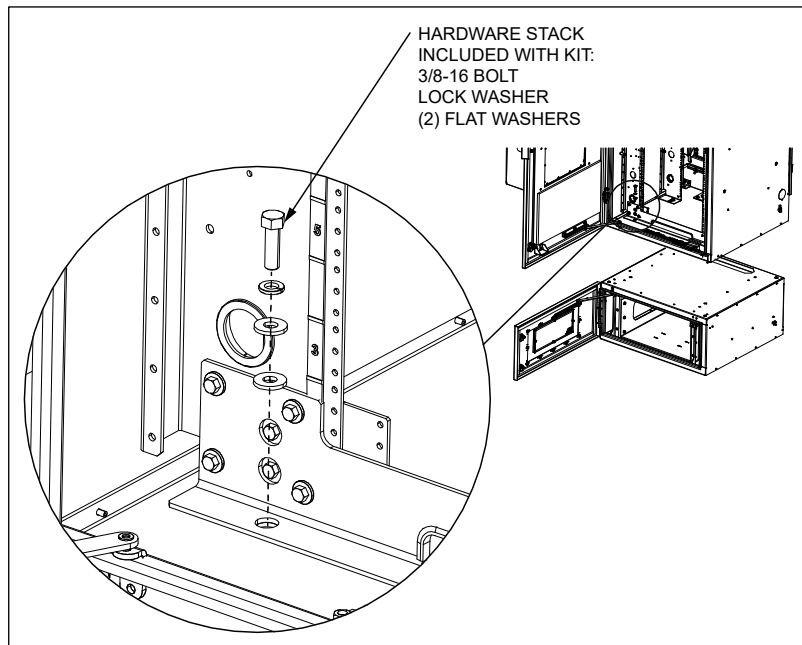

Figure 4 Replace Cross Brace Hardware
1. Locate the cross brace hardware in the CUBE (Figure 4). Remove this hardware from the CUBE.